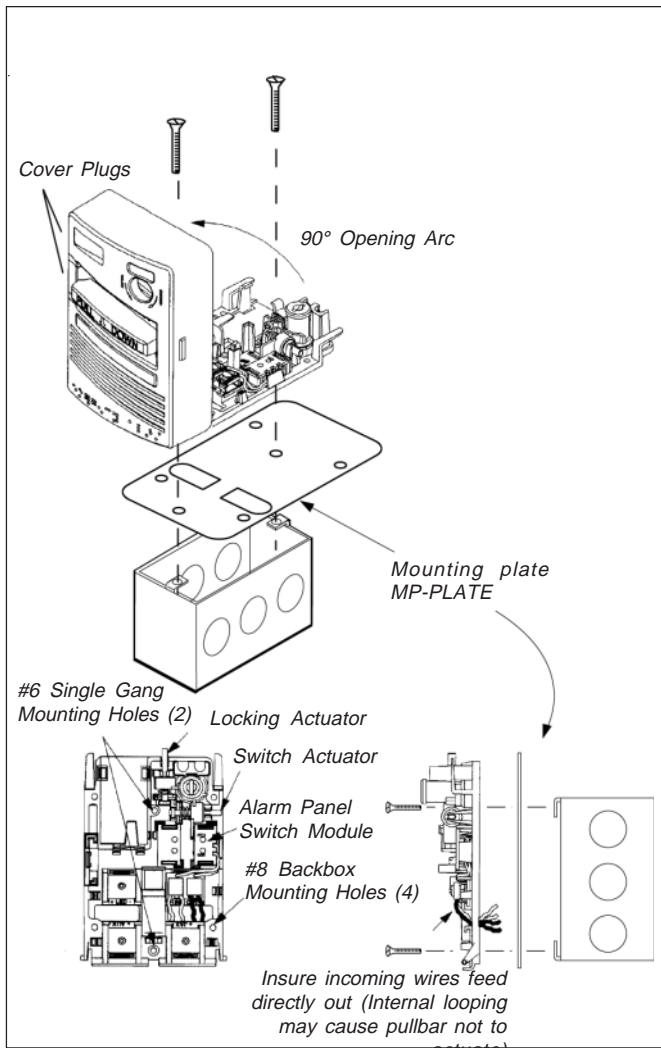

Figure 2: MMPS Basic Station Baseplate
To open the pull station, insert the supplied key into the lock cylinder & rotate it approximately 25° counterclockwise while carefully pulling the top portion of the cover away from the wall (this will release the vertical locking actuator from the cover). The key must then be removed from the lock cylinder to fully open the station which pivots 90° on two hinge pins at the bottom of the baseplate/cover assembly (see fig. 2).
For ease of mounting the station, the cover may be removed from the baseplate assembly only in instances wherein the Fireman's Jack or Sounder options are NOT installed (ref. manual #IISMMP02A for a graphical description of these options). Slowly apply pressure to the cover beyond the 90° normal opening movement (see fig. 2) which will flex the two pivoting hinge arms inward allowing the cover to be removed from the baseplate. At this time install the two cover plugs at the hinge joints by pressing them in place (if the optional shield is not used). To reassemble, slide the cover's recessed hinge ramps over the baseplate's hinge pins until both are fully engaged and the cover opens at a 90° angle.
a. Semi-flush Mounting (see figure 2).
b. Surface Mounting (see figure 2).
See figure 2. Two circuit board mounted terminals are mounted on the baseplate of the pull station for electrical connections under the note "INIT CKT" (initializing circuit). Strip 3/8" of insulation from all incoming wiring leads. Attach the appropriate wires to the corresponding terminals of the initializing circuit board. Securely tighten both of the binding screws to firmly capture the wires within the clamping feature of the terminals.
Property damage, serious injury or death could occur in the protected premises if you do not follow the correct closing procedure. Before closing the station, ensure that all of the incoming wires are not looped internally such that they may interfere with the basic internal mechanisms (or options installed) and closing of the station. Wiring from all terminals should lead directly from the terminals out towards the rear of the station. (ref. fig. 2).